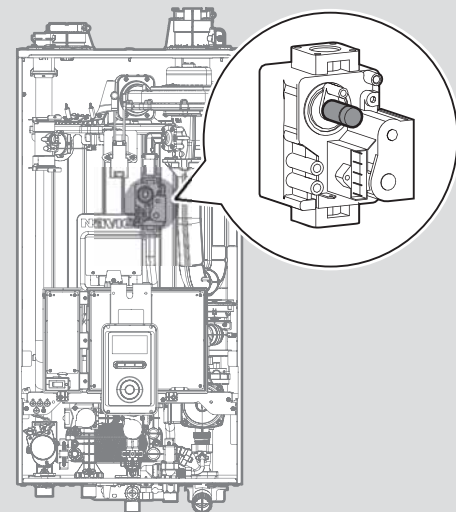

Figure 7. Set Screw Location
- Activate multiple zones and set the boiler to operate at 1-stage MIN mode. Measure the CO2 value at low fire. If the CO2 value is not within 0.5% of the value listed in Table 2, the gas valve set screw will need to be adjusted. If adjustment is necessary, locate the set screw as shown in Figure 7. Using a 5/32 in or 4 mm Allen wrench, turn the set screw no more than 1/4 turn clockwise to raise or counterclockwise to lower the CO2 value.